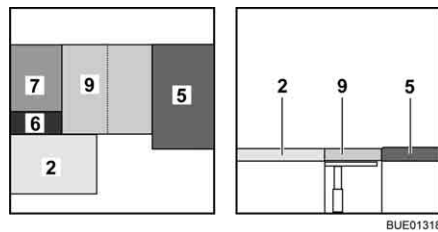

Fig. 144 After conversion
- Unfold the additional cushion (Fig. 144,9) and lay it on the table.